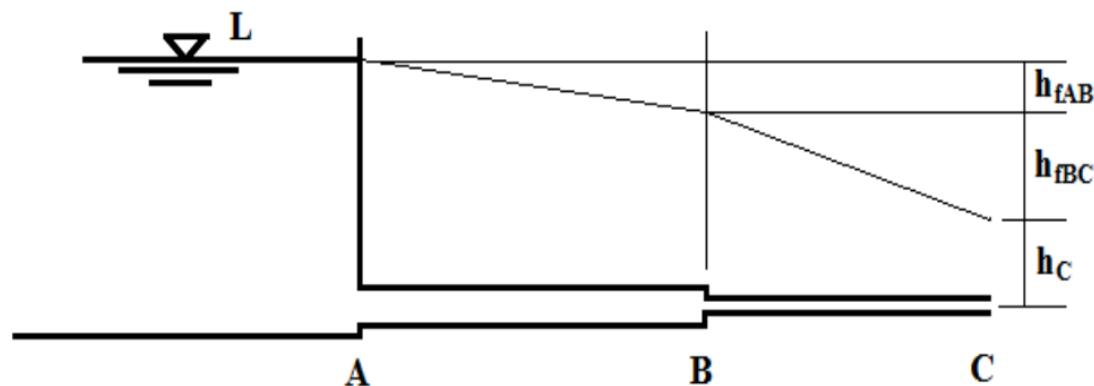

Figure 2 / Rajah 2
- (c). A tank transmits 100 L/s of water to point C where the pressure is maintained at 150 kPa at points A and B as shown in **Figure 2**. The first part AB of the pipeline is 50 cm diameter and 2.5 km long, and the second part BC is 25 cm diameter and 1.5 km long. All pipes are made of HDPE and minor loss of pipe contraction is 0.85. Assuming C is the datum, determine the water level (L) in the tank.